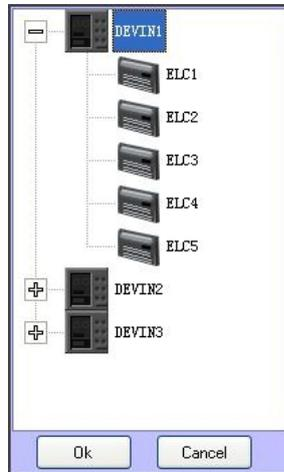

Fig.4-7
2. "b" is the indoor unit selecting box, click the drop down box "▼", and tree consisting of indoor units and centralized controllers will be prompted, as shown in <Fig 4-7>. After the indoor unit is selected from the tree, press "OK" and then the name of indoor unit will be prompted in the drop down box. Then press Query and the relevant information of the indoor unit will be in then display box in "d"